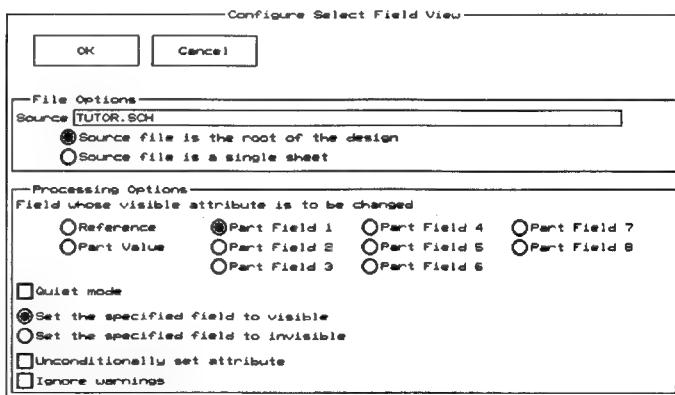

Figure 7-6. The Configure Select Field View screen.
1. Select **Select Field View** on the Schematic Design Tools screen, and then select **Local Configuration** and **Configure FLDATTRB**. The **Configure Select Field View** screen displays (figure 7-6).